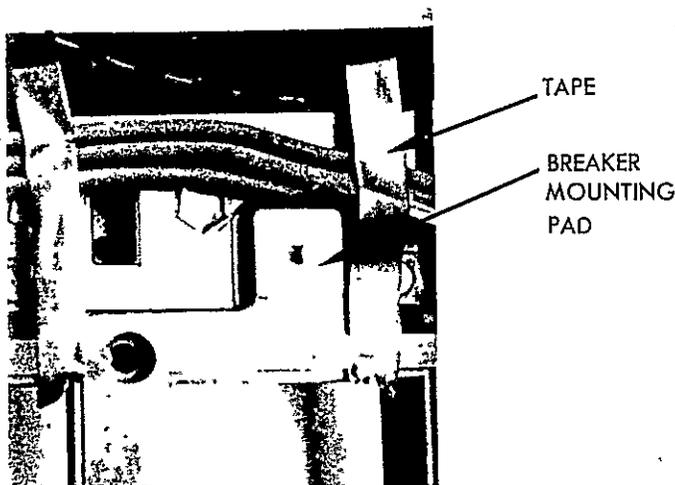

Fig. 9. View, back of breaker
NOTE: If the breaker was removed from its supporting structure, use tape to hold the wires in the wiring channel, as shown in Fig. 9, to ensure that no wires are pinched under the breaker mounting pads.
4. Insert the wires and flexible sleeving from the blown-fuse trip device through the knockout hole in the breaker base and along the back for attachment as desired. See Fig. 9.
NOTE: If the breaker was removed from its supporting structure, use tape to hold the wires in the wiring channel as shown in Fig. 9, to assure that no wires are pinched under the breaker mounting pads.